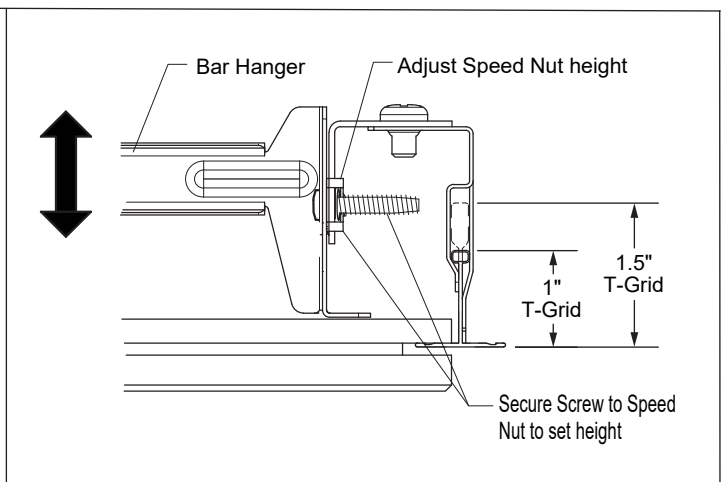

FIG 4.6 Adjust vertical Housing height
STEP 6 Adjust vertical height of Housing by sliding speed nuts so Housing is level with Ceiling Tile. Lock position by tightening Mounting Screws - **FIG 4.6**.